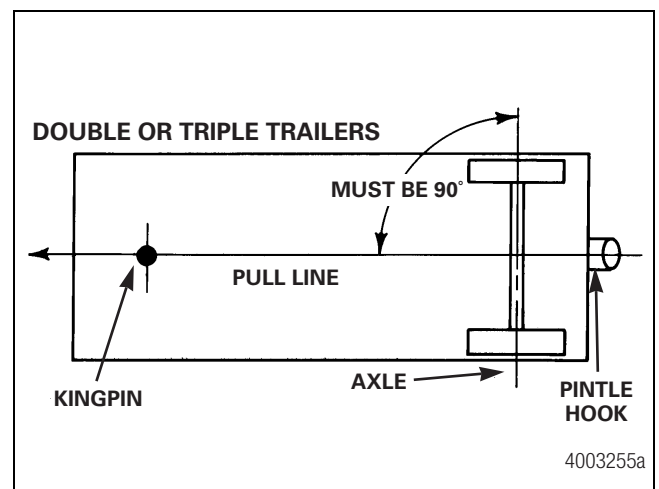
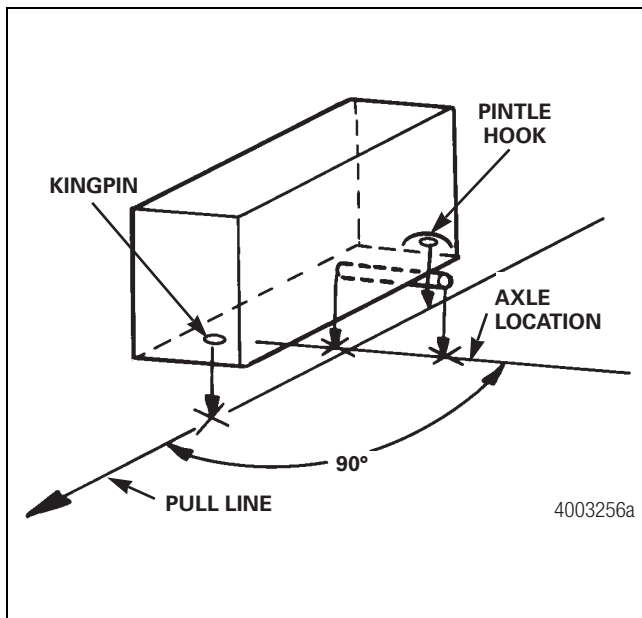

Figure 8.11
Figure 8.12
6. Hang plumb lines from the exact centers of the kingpin and pintle hook. Establish the trailer pull line by marking these points on the floor and snapping a chalk line through them. Figure 8.11 and Figure 8.12.